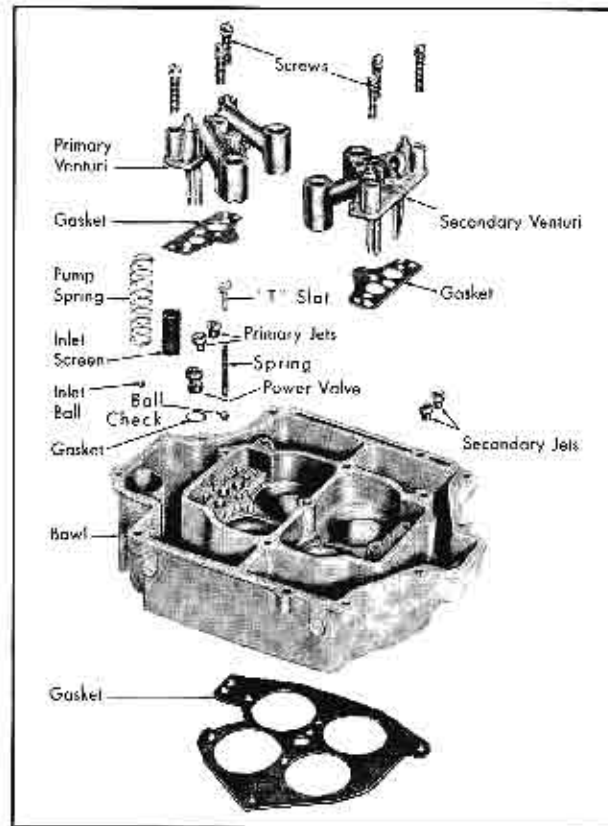

Fig. 12-49 Bowl Assembly Disassembled
2. With bowl upright, drop ball and copper spring into bore under primary venturi cluster location. Refer to Fig. 12-49. Then put "T" slot into the fixed position of the bore causing the spring to become compressed.